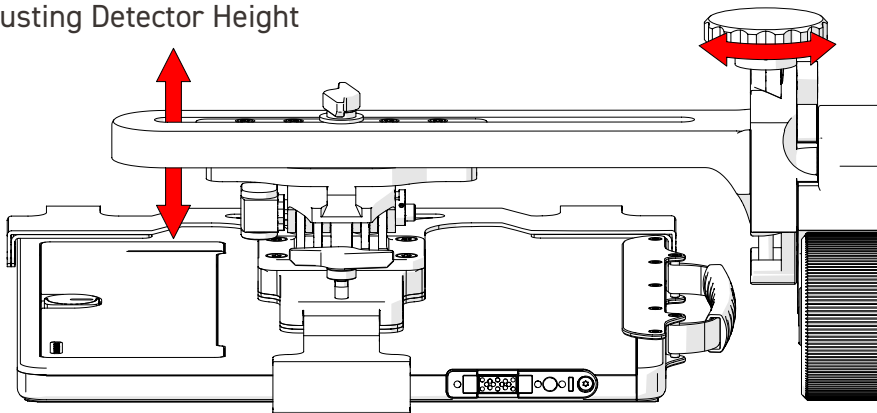

Fig. 39 - Rotating the red knob raises or lowers the detector arm
1. Rotate the red knob on the detector bracket to raise or lower the detector arm (Fig. 39).